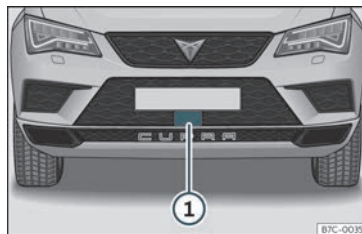

Fig. 216 On the front bumper: radar sensors.
While the vehicle is stationary, switch off the engine and start it again. Perform a visual check of the radar sensor »» Fig. 216. If it is still unavailable, refer to a specialised workshop to have the system inspected.
A radar sensor is installed on the front bumper to determine the traffic situation >>> **Fig. 216** ①.
»» Fig. 216.